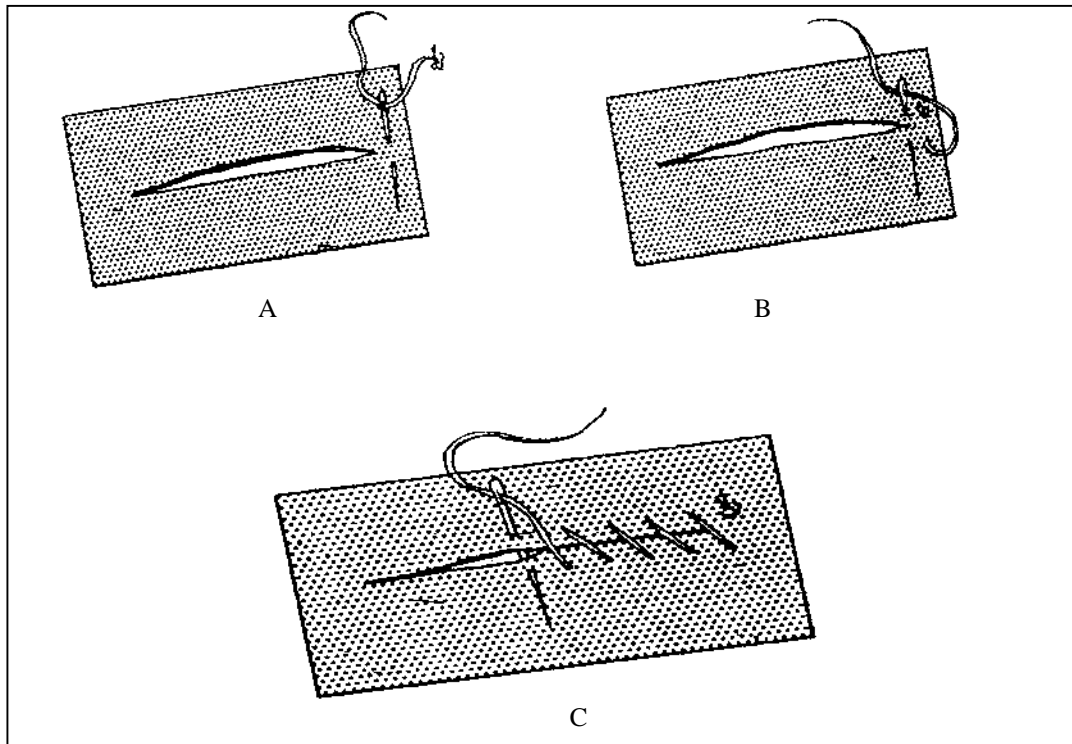

Figure 2-7. Stoating stitch
d. **Stoating Stitch.** The stoating stitch (Figure 2-7) is used to repair a clean-edge cut or tear in thick fabric. The stitches do not penetrate the fabric completely, so the repair does not show on the right side. To make a row of stoating stitches--
- (1) Turn the fabric so that the wrong side is up, and stick the needle into the thickness of the fabric 1/4 inch from the end of the tear.
- (2) Backstitch to tack the row at the beginning. Do not penetrate the cloth completely.
- (3) Make a vertical stitch, coming up 1/16 inch away from the bottom edge of the tear. Do not penetrate the fabric.
- (4) Working diagonally, stitch the needle into the fabric 1/16 inch away from the top edge of the tear.
- (5) Continue to pass the needle over the tear diagonally and down through the tear vertically. Draw up all stitches firmly.
- (6) Stop 1/4 inch beyond the end of the tear.
- (7) Backstitch to tack the row at the end.
- (8) Make a knot in the thread close to the cloth, and cut off the remaining thread.